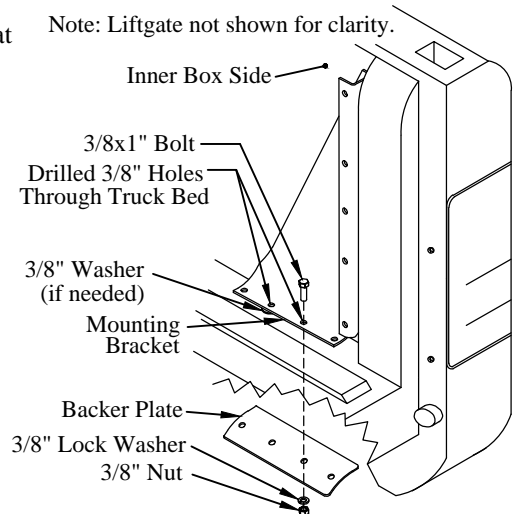

Figure 10: Mounting bracket and backer plate.
Choose two of the four holes provided with no obstructions on the underside (Figure 10).
- (2) 3/8"x1" hex head bolts on the top-side (Figure 10).
- (1) backer plate, (2) lock washers, and (2) hex nuts on the under-side (Figure 10).